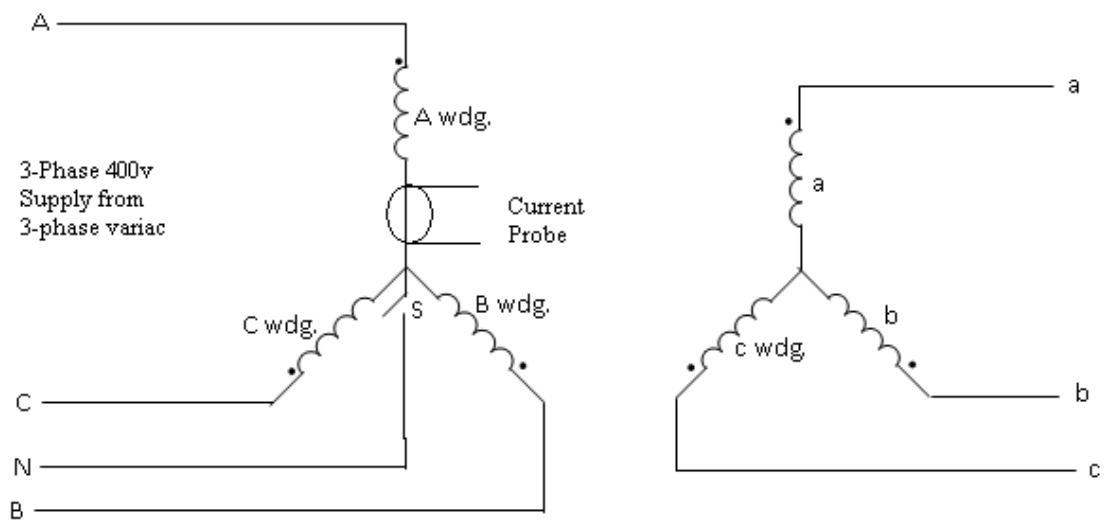

FIG. 3.2 Star Star Connection
Star connection is formed on each side of a transformer bank by connecting together undotted terminals on both sides of the bank as shown in Fig. 3.2 This connection provides zero degree phase shift between the corresponding line voltages/currents on the primary and secondary sides. For this reason it is called a 0° connection. However if the winding connection on the secondary side is reversed i.e. dotted ends are connected together, the corresponding line voltages/currents become out of phase resulting in 180° connection. Further if the phase transformation ratio of each single phase unit is $x:1$, the line transformation ratio of the bank is also $x:1$.
Step 1: Make the connections as per Fig 3.2 and apply an ac voltage of 400 Volts line to line by Variac with S open and measure line-to-line and line-to-neutral voltages on both primary and secondary sides. Connect the current probe to channel 1 of DSO to record the no-load current waveform in phase winding 'A' and connect the voltage differential probe on channel 2 across phase winding 'A' to record the no load phase voltage. Record both the waveforms on a same graph. Now connect channel 2 across any line-to-line terminals and just observe & record the waveform. Is it sinusoidal or non-sinusoidal? Comment on your observation.